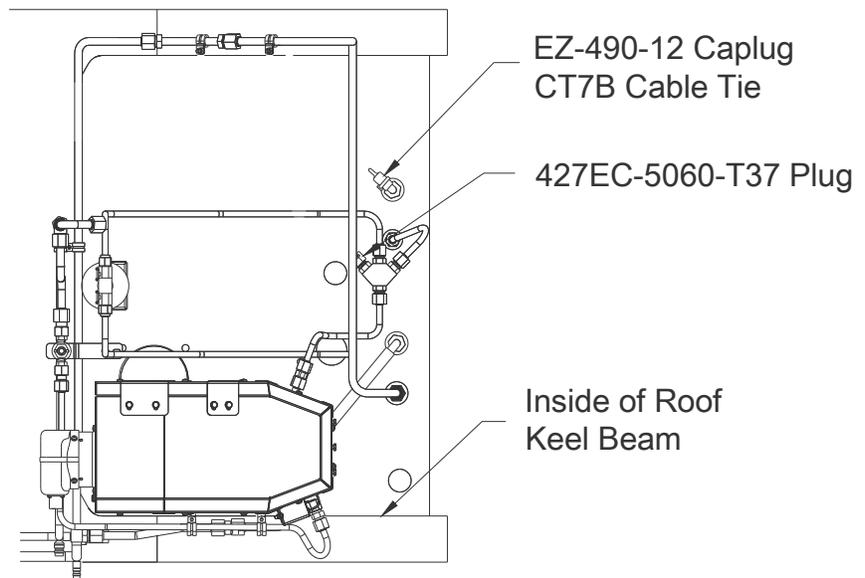

Figure 9: Top View of FWD Flight Control Deck (Condenser Not Shown)
4. Install EZ-490-12 Caplug on drain fitting on transmission deck. Secure with CT7B cable tie, see Figure 9.